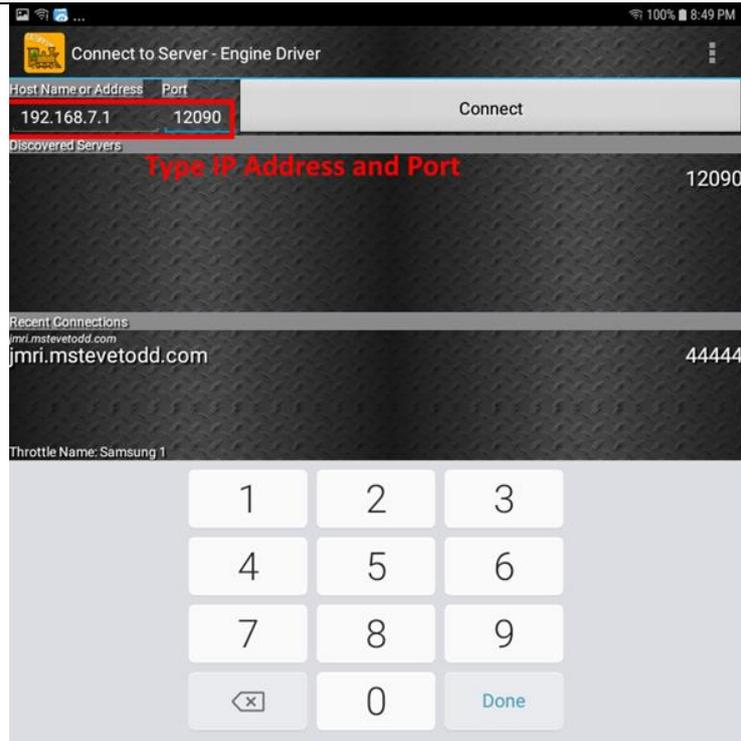

Figure 21 Connecting manually to the WFD-28 WiThrottle Server
- (11) **Only if the WFD-28 is not discovered** for some reason, after waiting a few moments, you must type the IP Address of the WFD-28 unit always 192.168.7.1 in the “Server Address” box at the top-left and the port value of 12090 in the port textbox as Figure 21, then tap the “Connect” button.